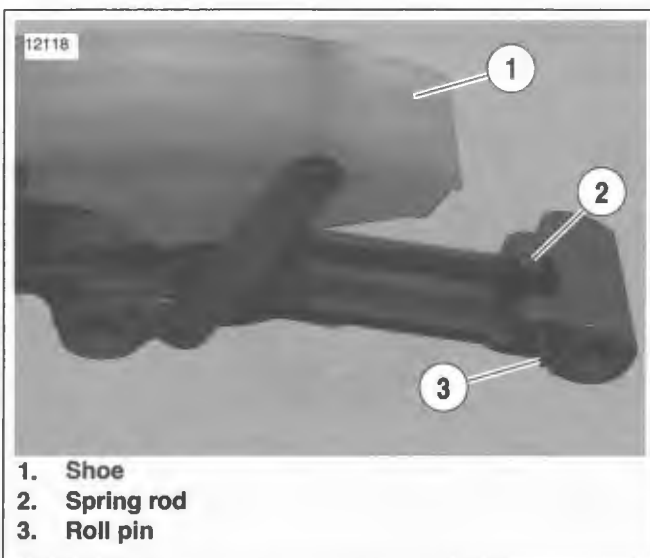

Figure 6-21. Spring Rod Location
11. See Figure 6-21. Locate end of spring rod (2) on roll pin (3).